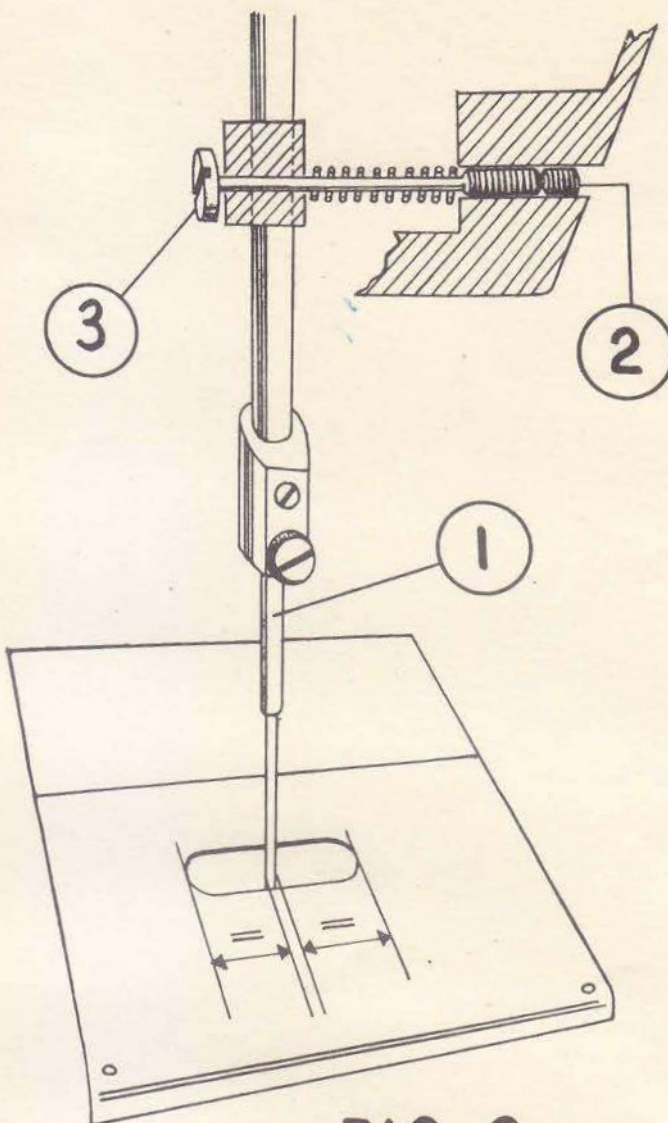

FIG. 3
2. CENTERING OF NEEDLE BAR (for "Transforma", Fig. 3)